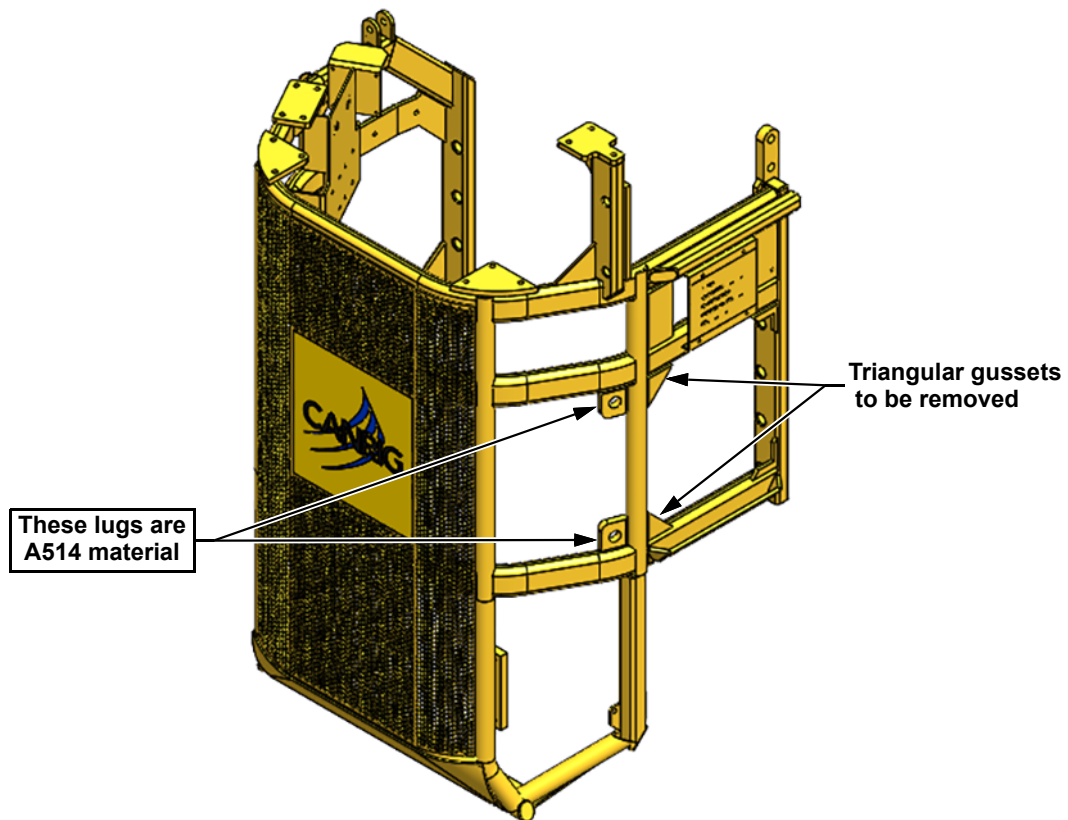

Figure 10: Triangular gussets to be removed.
- If the cage is DT33192 **Rev A, B, or C** or DT11507, then the bottom ODS beam will be 4" X 2" HSS with a 4" x 4" x 1/2" triangular gusset (See Figure 10) at its junction with the vertical pipe. In this case, one (1) of plate P/N: DT27200-4 (item 3B) is required.